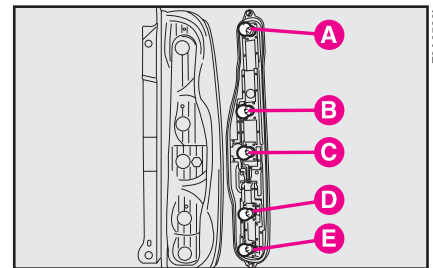

fig. 30
7) Remove the bulbs **fig. 30** by pushing them gently and turning them counterclockwise (bayonet fitting)